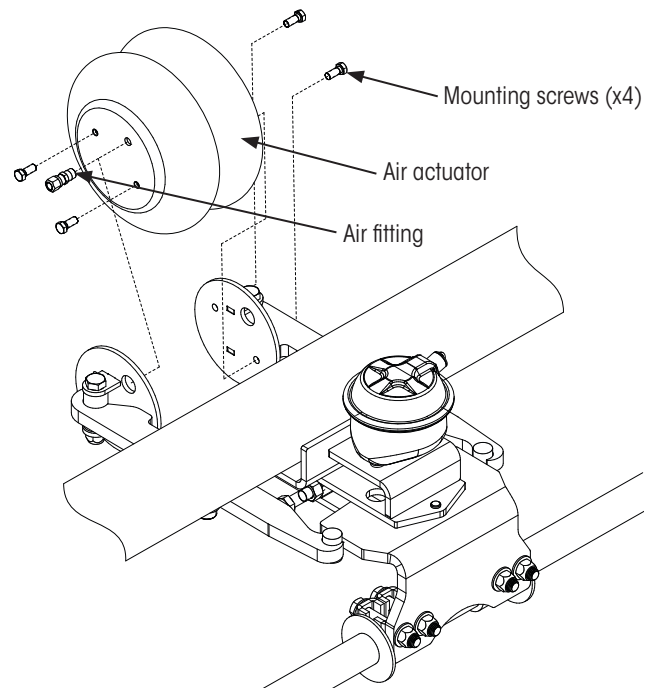

Figure 7: Removing lock-straight air actuator
4. **Remove** the air actuator (Figure 7) by extracting the air fitting and four mounting screws. **Set aside** for later reassembly.